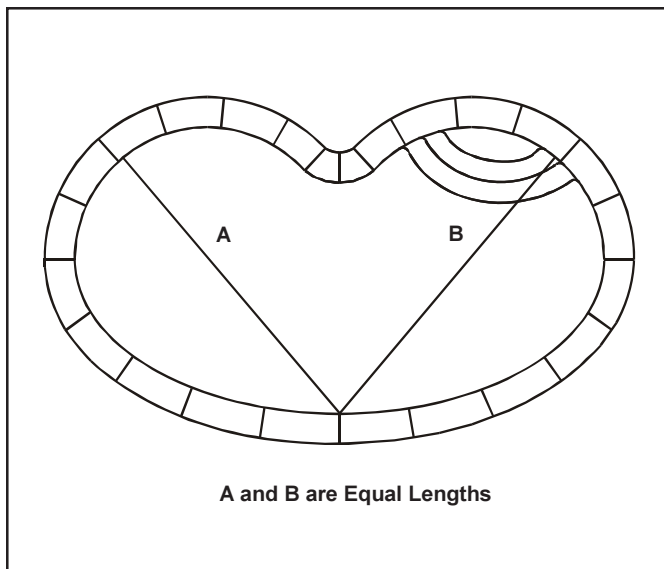

Figure 1. Pool Cleaner Line Location
2. The location should also be equidistant from the furthest points of the pool (see Fig. 1).